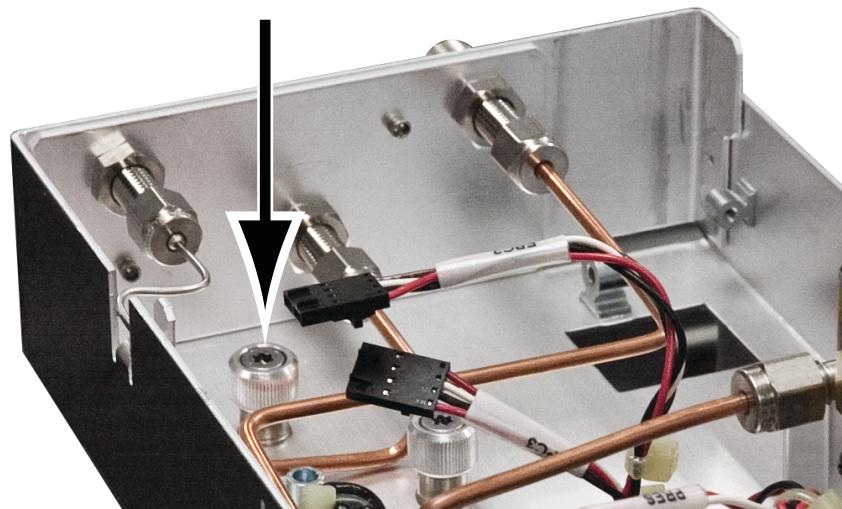

Figure 8 Back T-20 Torx thumbscrew
- b Completely loosen the T-20 Torx captive thumbscrew in the back area of the pneumatics assembly (Figure 8).
- c Tighten the T-20 Torx captive thumbscrew in the back of the pneumatics assembly (see Figure 8 on page 9).